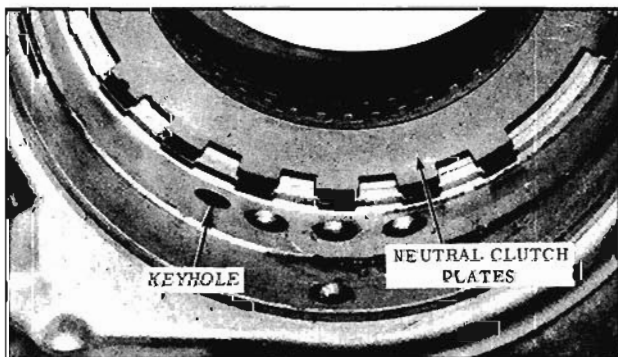

Fig. 6-47 Case Support Key
14. Remove the case support key from the transmission case if still in position. (Fig. 6-47)
15. Remove the neutral clutch plates (four drive composition and four driven steel) and clutch backing plate from transmission case. (Fig. 6-47)